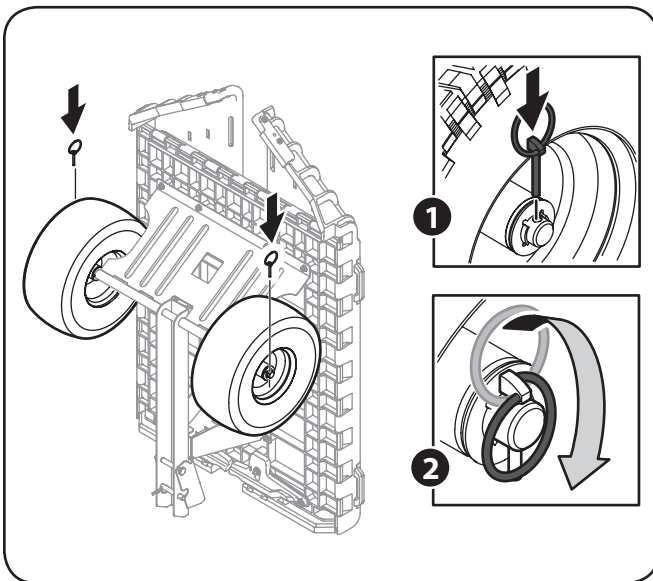

Figure 3-4
- Install the lynch pins from the hardware pack through the holes in the axles. Flip the lynch pin down over the axle to secure the tires in place. See Figure 3-4.